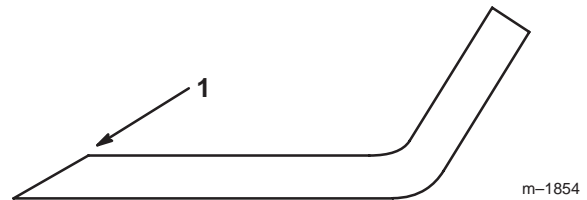

Figure 27
1. Use a file to sharpen the cutting edge at both ends of the blade (Fig. 27). Maintain the original angle. The blade retains its balance if the same amount of material is removed from both cutting edges.